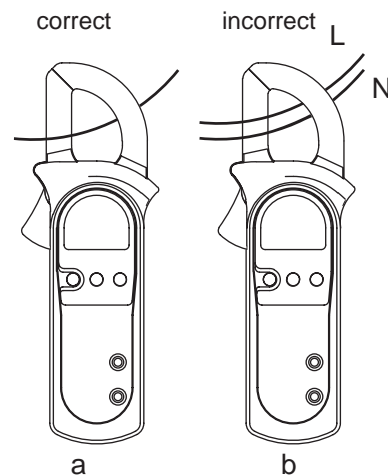

figure 4
B. AC Current Measurement (See figure 4)